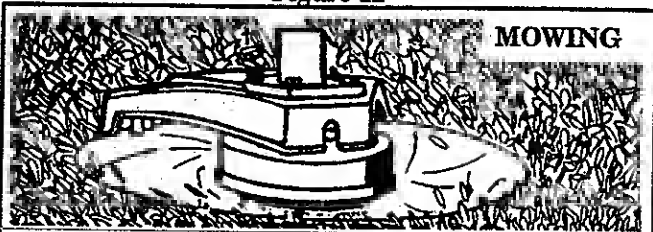

Figure 13
3. **MOWING**– Figure 13 . Your trimmer is ideal for mowing in places conventional lawn mowers cannot reach. In the mowing position, keep the line parallel to the ground. Avoid pressing the head into the ground as this can scalp the ground and damage the tool.